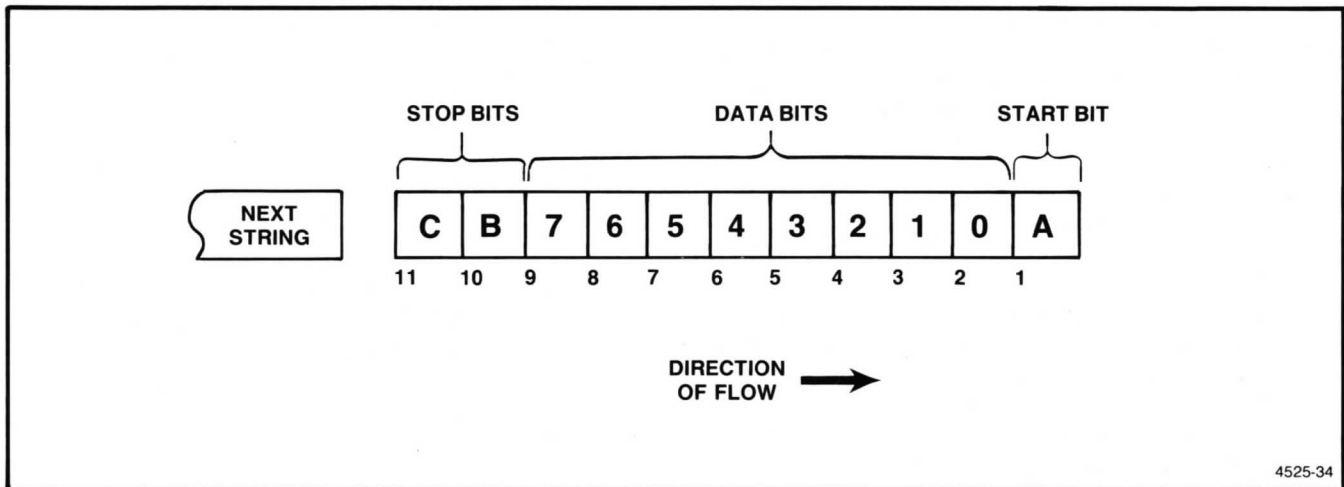

Figure 4-20. Serial Character Format.
The keyboard operates through a full duplex serial interface. The data protocol is 1200 baud asynchronous. The timing and data transmission is typical of a standard DUART, and is a serial data stream as depicted in Figure 4-20.
- 5) The controller sends a serial character code to the Terminal Control board over the KDO-1 output line. See Figure 4-20, again.